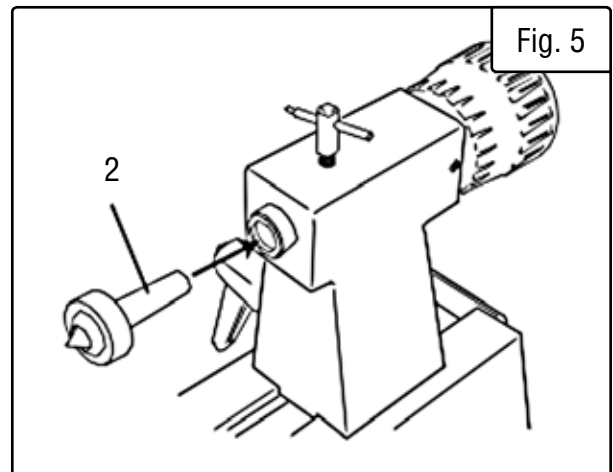

Fig. 5
4. Once the wood is mounted on the spur center and spindle, it can be supported with the live center (Fig. 5 - 2).